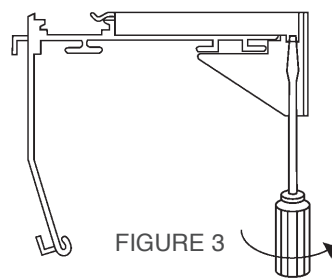

FIGURE 3
2. To remove the shading, partially lower the shading and insert a flat head screwdriver as shown (Fig. 3). Twist the screwdriver until the headrail disengages from the bracket.